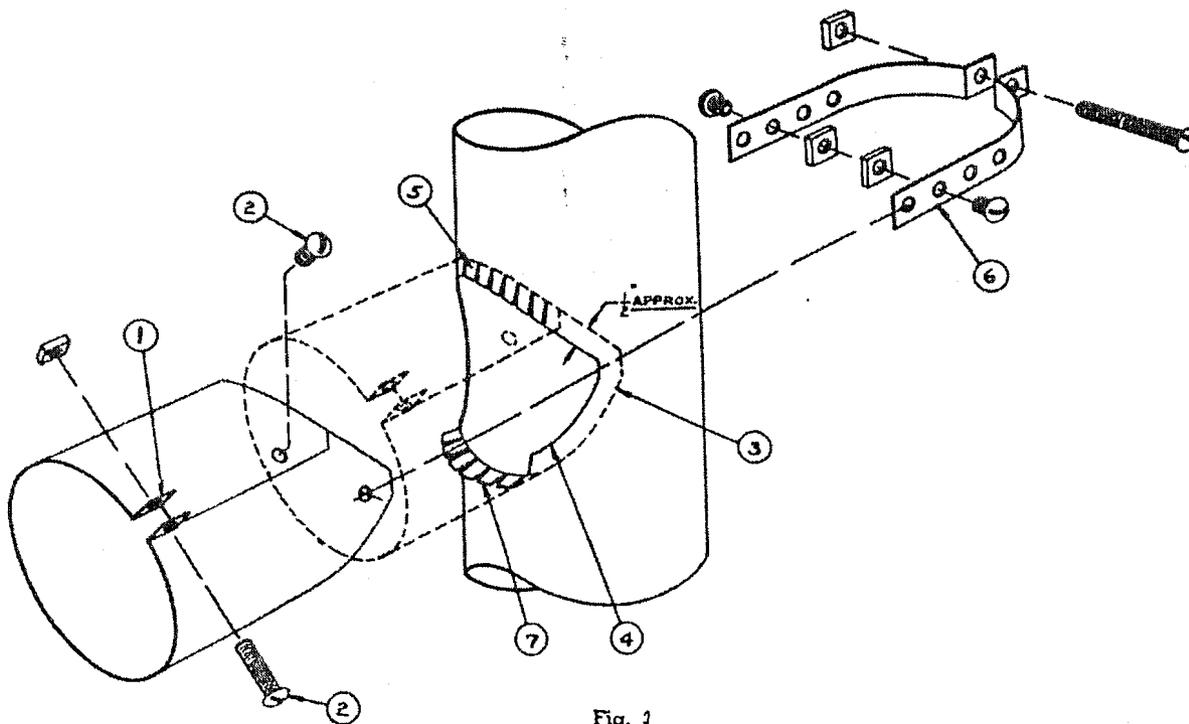

Fig. 1
2. Insert burner auger assembly into burner auger tube and secure assembly with self tapping bolt using hole provided in burner auger tube. (See Figure 1).
3. Remove cover from auger motor. Fasten flex conduit extending from the electrical box to furnace auger motor housing using conduit lock nut. (See Figure 1) See Step 4 under storage bin set up for wiring procedures.
4. Connect one black auger motor lead to the two orange wires with wire nut connector. Connect the other black auger motor lead to the two white wires using wire nut connector. (See Figure 1)
CONTROL LOCATIONS — The control should be located as close as possible to a furnace or boiler and positioned as shown in Figure 1. It should be 18" from a side switch and at least 18" from a combustible ceiling or wall. Do not locate in a room separated from the appliance.